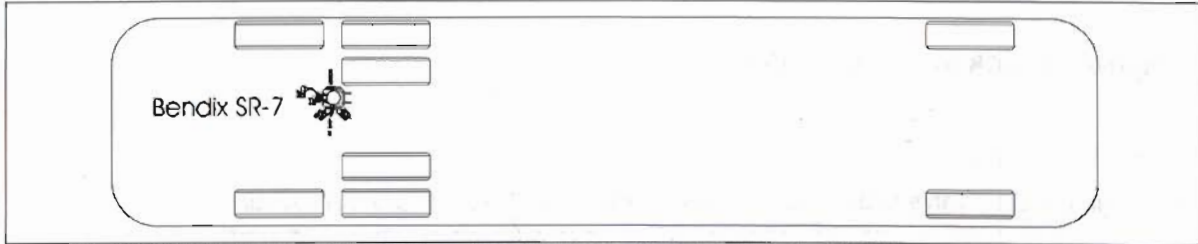

FIGURE 1: BENDIX SR-7 LOCATION ON H3, X3 AND XLII MTH SERIES VEHICLES (TYPICAL)
1. Locate the SR-7 spring brake modulating valve (see figure 1 & 2). Typically, the SR-7 valve is located between the drive and the tag axle, behind the L.H. side rear fender (H3 series coaches) or above the drive axle in the rear underframe (X3 & XLII MTH series).